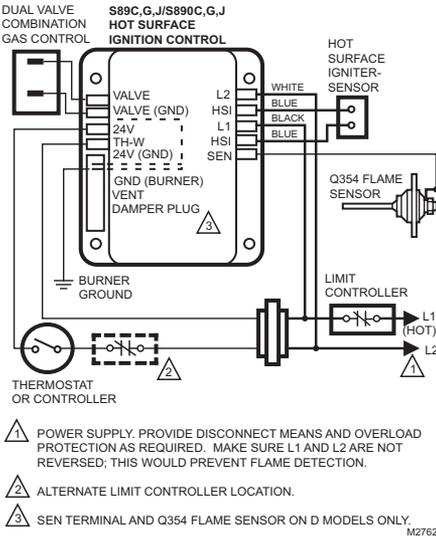

Fig. 6. Typical wiring connections with 24 volt control in S89 Direct Ignition System.
3. With main burner operating, check the control flow rate using the meter clocking method or check pressure using a manometer connected to the outlet pressure tap on the control. See Fig. 6.
- b. Using a screwdriver, turn the inner adjustment screw (Fig. 6) clockwise  to increase or counterclockwise  to decrease the gas pressure to the burner.